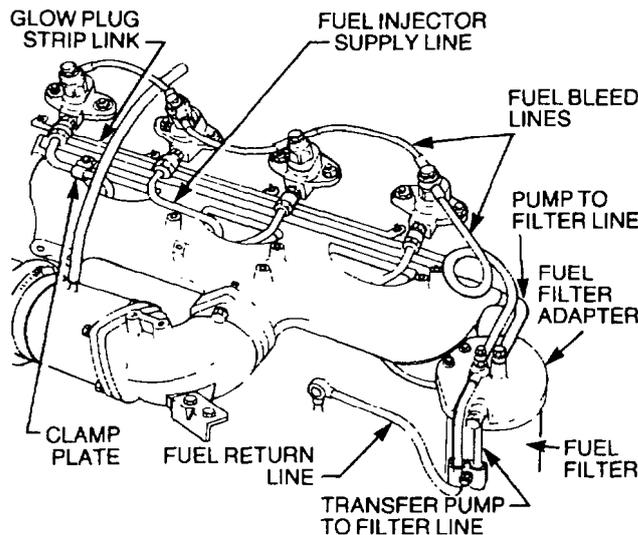

Figure 14 Fuel Lines
- r.** Remove the electrical strip link from the top of the glow plugs (Figure 14). Remove the electrical feed wire from cylinder Number 4 glow plug and remove the glow plugs.
- s.** Place a suitable container beneath the engine to catch any fuel spillage and drain the fuel from the fuel filter into a suitable receptacle. Remove the fuel injector bleed lines and plug all the apertures with suitable plastic plugs (Figure 14).
- t.** Disconnect and remove the remaining fuel lines from the fuel filter adapter and plug all apertures with suitable plastic plugs (Figure 14).
- v.** Crack loose the fuel line connection at the fuel injectors and allow any residual fuel which may be under pressure to drain off (Figure 14). Disconnect the fuel lines and plug all the apertures with suitable plastic plugs.